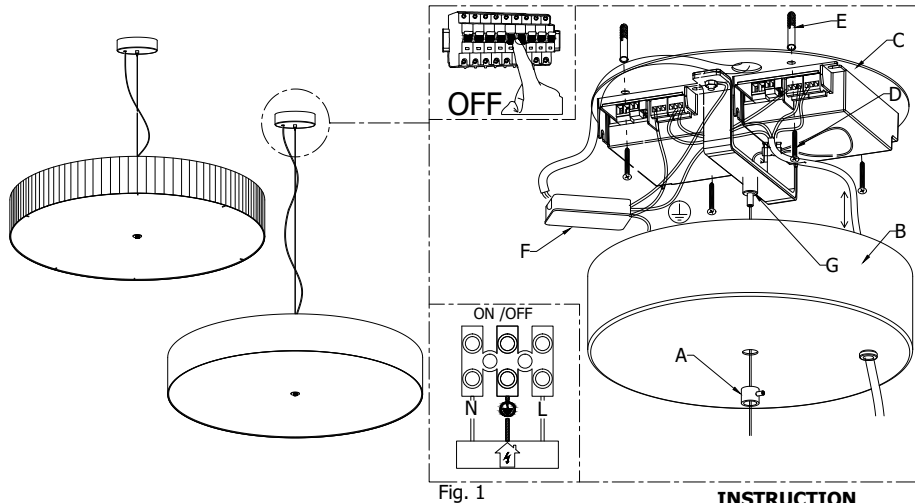
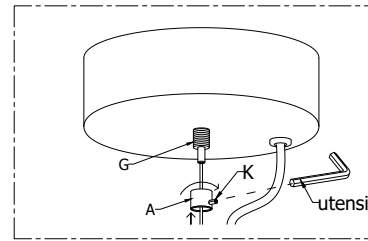
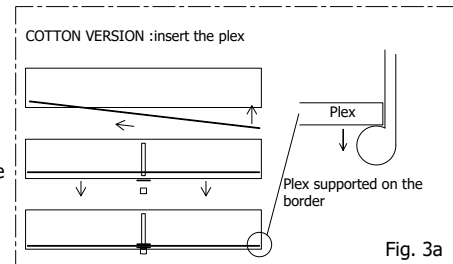

Fig. 1
Fig. 2
Fig. 3a
- Unscrew the handle (A) and lower the canopy (B). (FIG.1)
- Fix the bracket (C) with screw (D) and dowels (E) on the ceiling. (FIG.1)
- Adjust the length of the steel cable acting on regulating terminal security (G), push the part (B) of the gripper so that the steel cable runs. (FIG.1)
- Connect the network cables to terminal (F) according to the polarity, and close the box. (FIG.1)
- Version Dimmable connect the cables inside the box (V) matching the polarity, and close the box (Fig. A).
- Place the canopy in the ceiling. Screw with care the particular (A), the block cable (G).(FIG.2).
- Screw the safety screw (K)(Fig. 2).
- COTTON VERSION: Insert the plexiglas finishing panel (I) inside the lamp shade (L) and then lean it by fall on the border of the lampshade.
- insert the plex (I) by turning the handle (M) and the washer (N) at the threaded pipe (O) (Fig. 3+Fig. 3a).